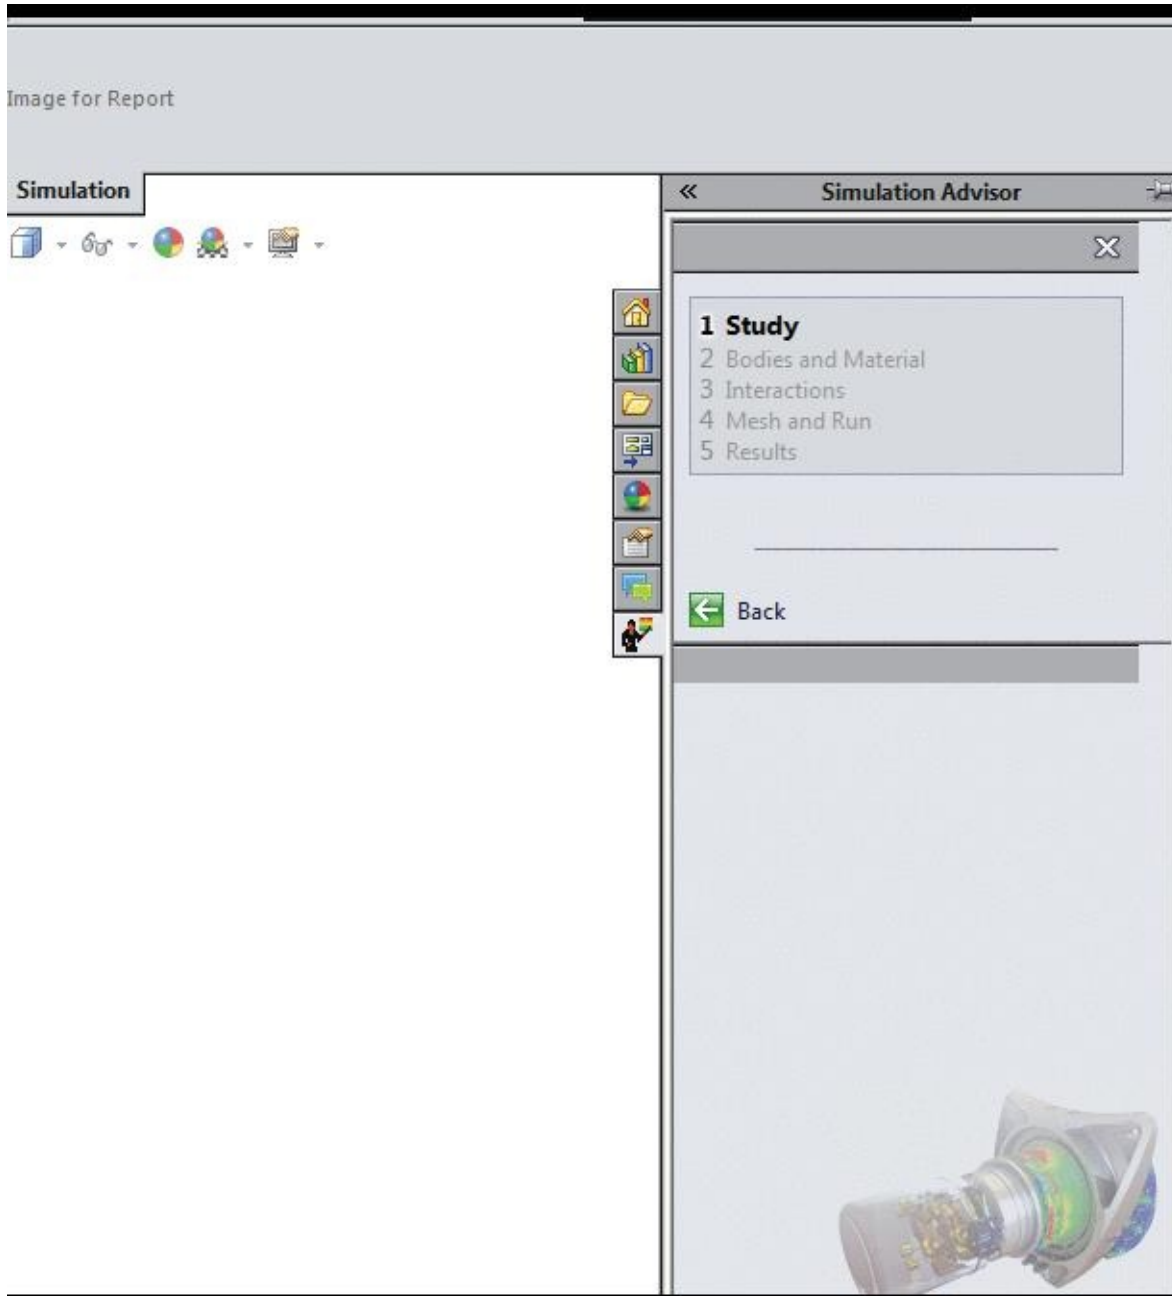

Figure-8. Simulation advisor pane
- Click on the **Study Advisor** button from the drop-down. The **Simulation Advisor** pane will display in the right of the SolidWorks window; refer to Figure-8.